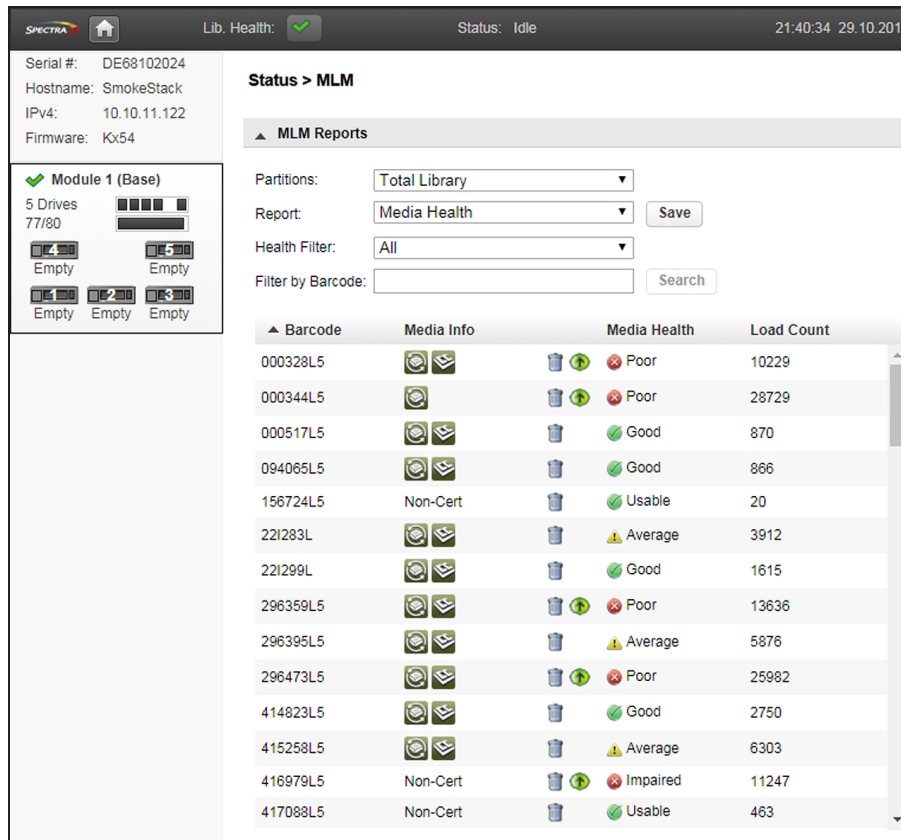

Figure 109 Use the health icons on the MLM Reports screen to quickly assess media health.
7. Click **OK** to return to the main MLM Reports screen (Figure 109 on page 187).
Report Selected Data	Only the fields displayed in the report that you selected on the MLM Reports screen (Figure 109 on page 187). Note: The headings in the saved report reflect the fields displayed in the report you selected in the MLM Reports screen.